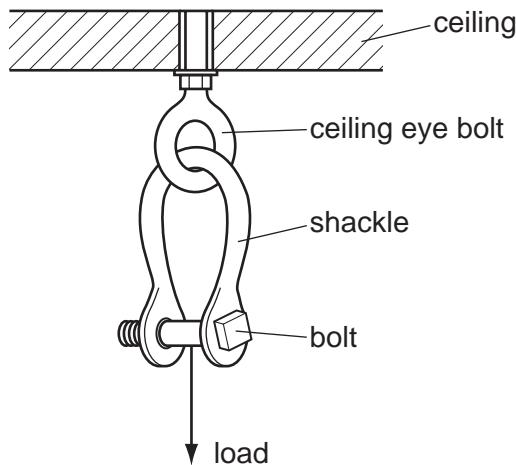

Fig. 12
- 13 Fig. 12 shows a shackle bolt.
- (a) (i) State the forces acting in the shackle and the bolt when loaded as shown in Fig. 12.